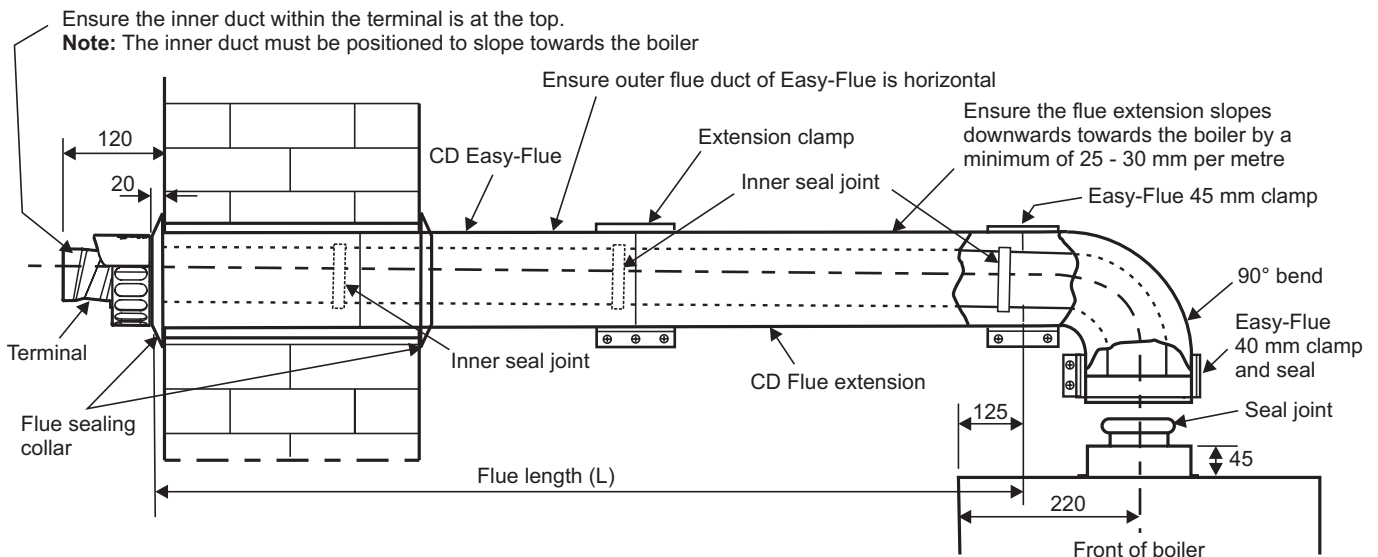

Fig. 5.11 - Side flue
### 5.8 EXTENDING THE FLUE - Fig. 5.11
**Note:** Check the flue terminal protrudes 120 mm out of the wall and that the inner duct of the terminal is positioned correctly, i.e. the inner duct within the terminal is at the top. See Fig. 5.11.